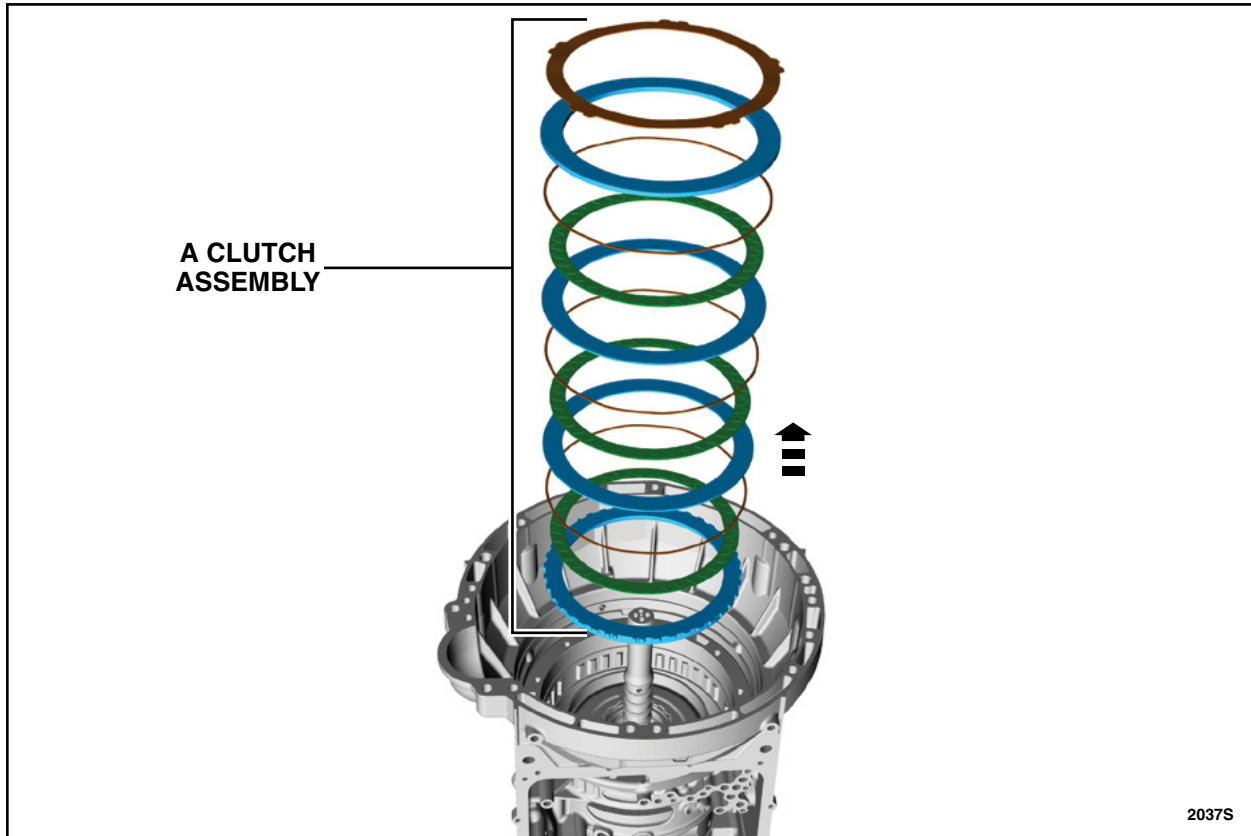

FIGURE 12
14. Using a magnet, remove the A clutch assembly. See Figure 12.